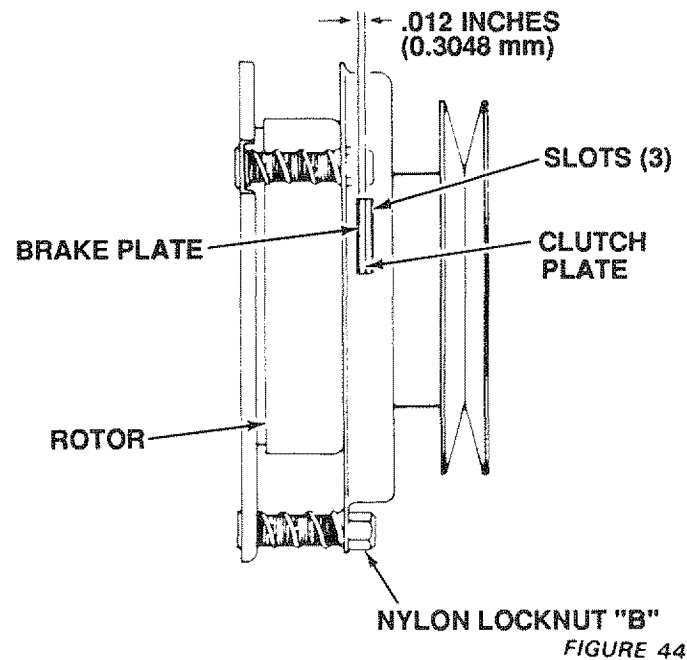

FIGURE 44
- Adjust the three nylon locknuts "B" until the space between the clutch plate and rotor measures .012" (0.305 mm) at all three slot locations cut in the side of the brake plate (Fig. 44).